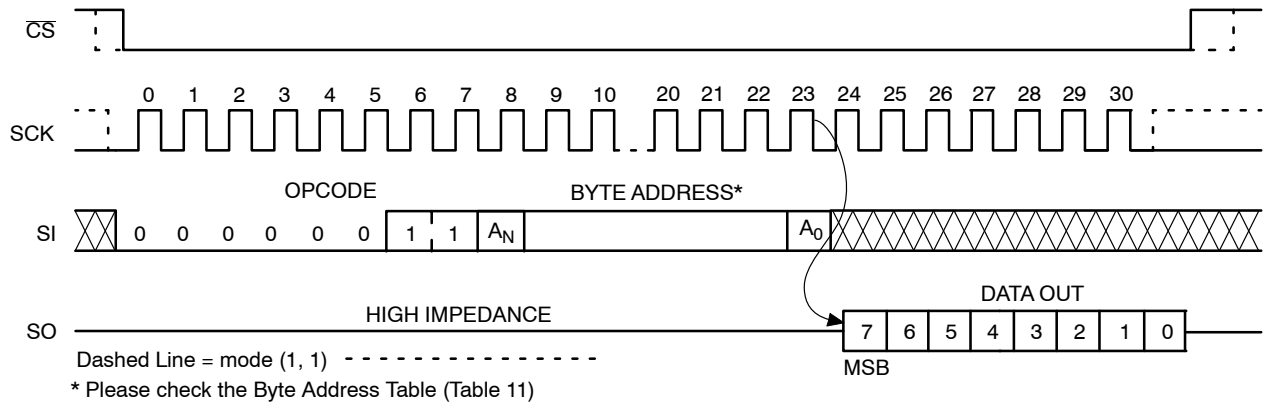

Figure 8. READ Timing
After receiving the last address bit, the NV25xxx will respond by shifting out data on the SO pin (as shown in Figure 8). Sequentially stored data can be read out by simply continuing to run the clock. The internal address pointer is automatically incremented to the next higher address as data is shifted out. After reaching the highest memory address, the address counter “rolls over” to the lowest memory address, and the read cycle can be continued indefinitely. The read operation is terminated by taking $\overline{CS}$ high.
Reading the additional 32-byte Identification Page (IP) is achieved using the same Read command sequence as used for Read from main memory array (Figure 8). **The IPL bit from the Status Register must be set (IPL = 1) before attempting to read from the IP.** The [A4:A0] are the address significant bits that point to the data byte shifted out on the SO pin. If the $\overline{CS}$ continues to be held low, the internal address register defined by [A4:A0] bits is automatically incremented and the next data byte from the IP is shifted out. The byte address must not exceed the 32-byte page boundary.